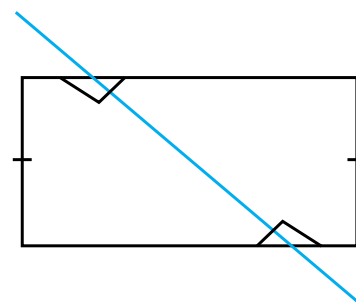

Figure 3. This axis is placed at an extreme angle to the center axis, one of thousands of ways to place a new axis.
- The angle of an axis as it crosses the center axis can be extreme by using the sides of the wood rather than the ends (*Figure 3*).